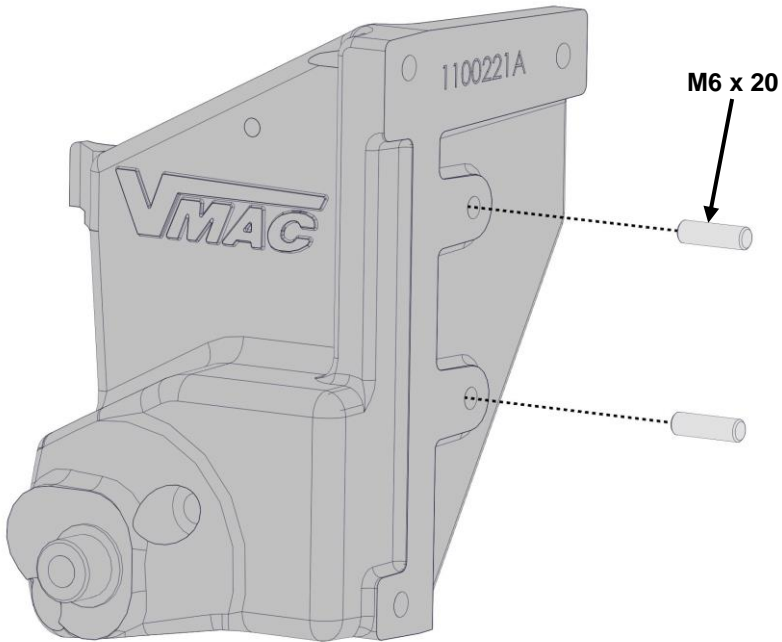

Figure 3.1 – Installing the Dowels
- Install the two supplied M6 x 20 dowels into the main bracket (Figure 3.1).